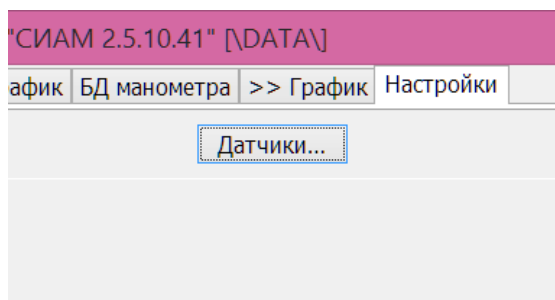

Figure 6. The “Settings” tab in the “DB SIAM”
- press the “Devices” button (see Fig.6);